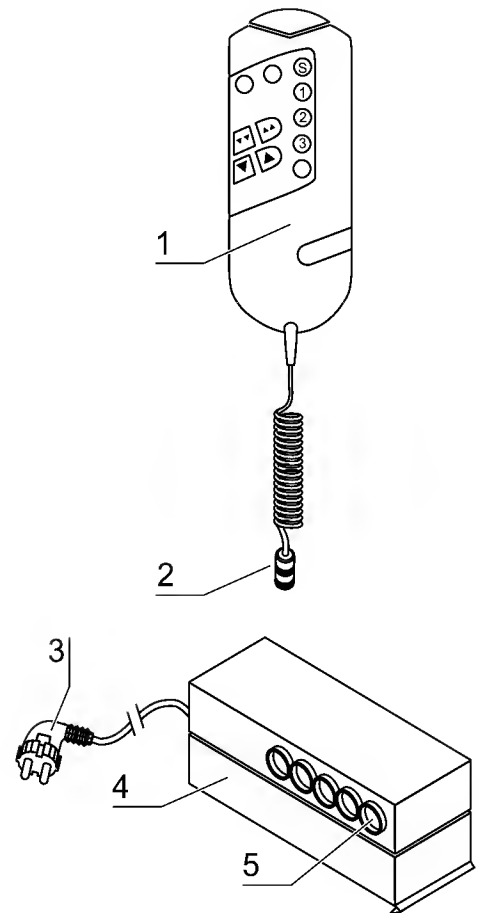

Fig. 2
**Fig. 2:** The height adjustment of the rack is remote-controlled. The remote control handset [1] is connected directly to the receptacle of the synchronizer module; the connecting cable supplies the handset with voltage.